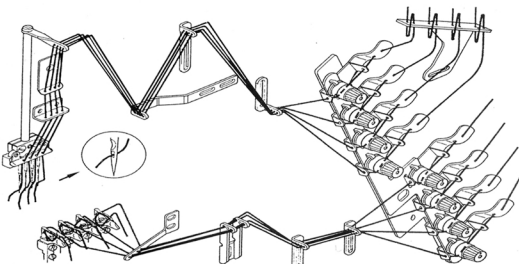

图9 (Fig.9)
1. Refer to the sewing type you need for correct threading .Any incorrect threading may cause thread brake 、 uneven stitches or skip stitches. (Fig.9)
1. Thread tension should be adjusted in regarding to kinds of threads fabrics, thickness of fabrics ,and stitch length etc. (Fig.9)